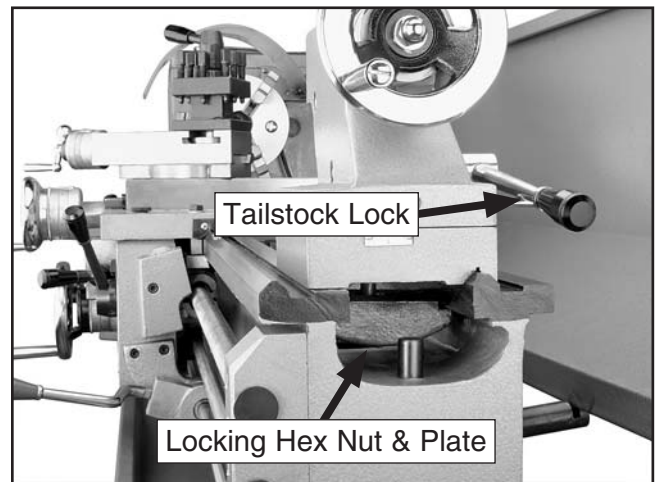

Figure 94. Tailstock locking hex nut and plate.
1. Move the tailstock lock down, then position the tailstock to an area on the bedway that allows access to the locking hex nut and plate underneath the tailstock (see **Figure 94**).